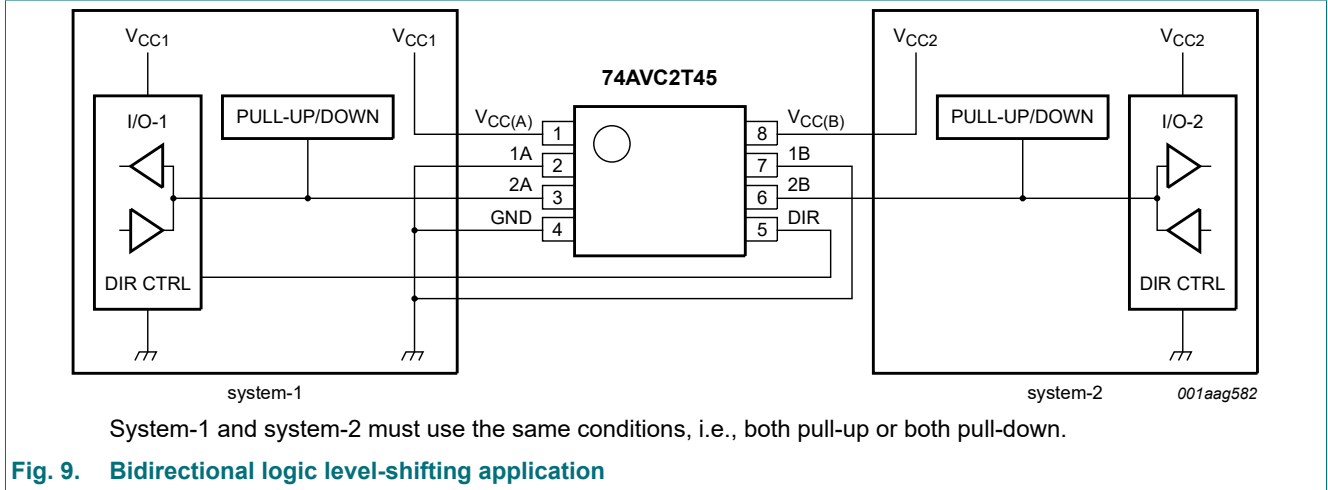

Fig. 9. Bidirectional logic level-shifting application
Fig. 9 shows the 74AVC2T45-Q100 being used in a bidirectional logic level-shifting application. Since the device does not have an output enable (OE) pin, the system designer should take precautions to avoid bus contention between system-1 and system-2 when changing directions.